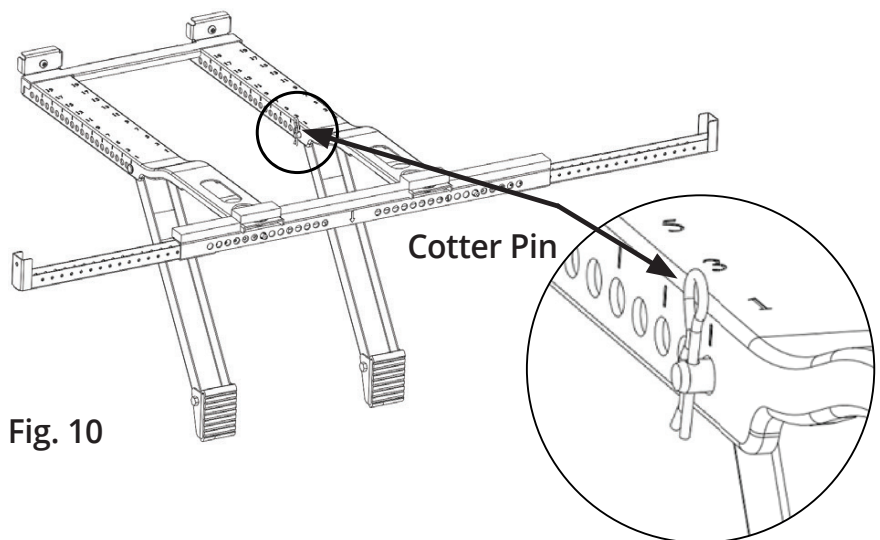

Fig. 10
D. Check the level again and ensure the bracket and arms are secure. After making any necessary adjustments, insert the **Cotter Pins** into the holes of the **Main Support Pins**, as shown in **Fig. 10**.